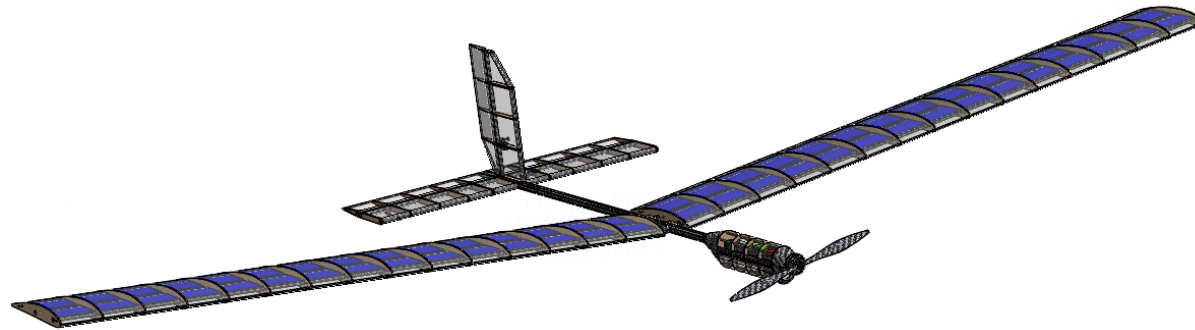

Figure 17 - Final Assembly 2
11. Ensure that the configuration resembles Figure 17, final product.